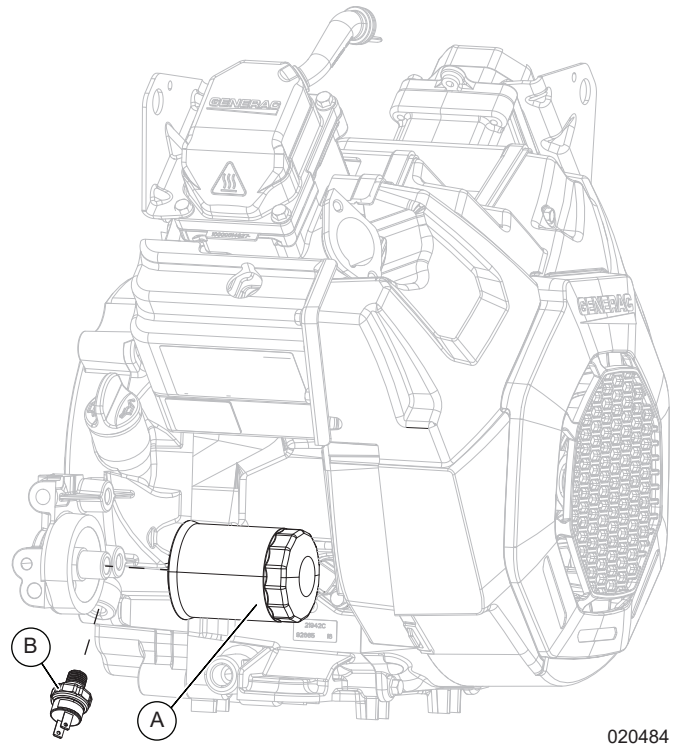

Figure 6-16. Remove Oil Filter and Low Oil Pressure Switch
See Figure 6-16. Remove oil filter (A) and low oil pressure switch (B) from oil filter mount.